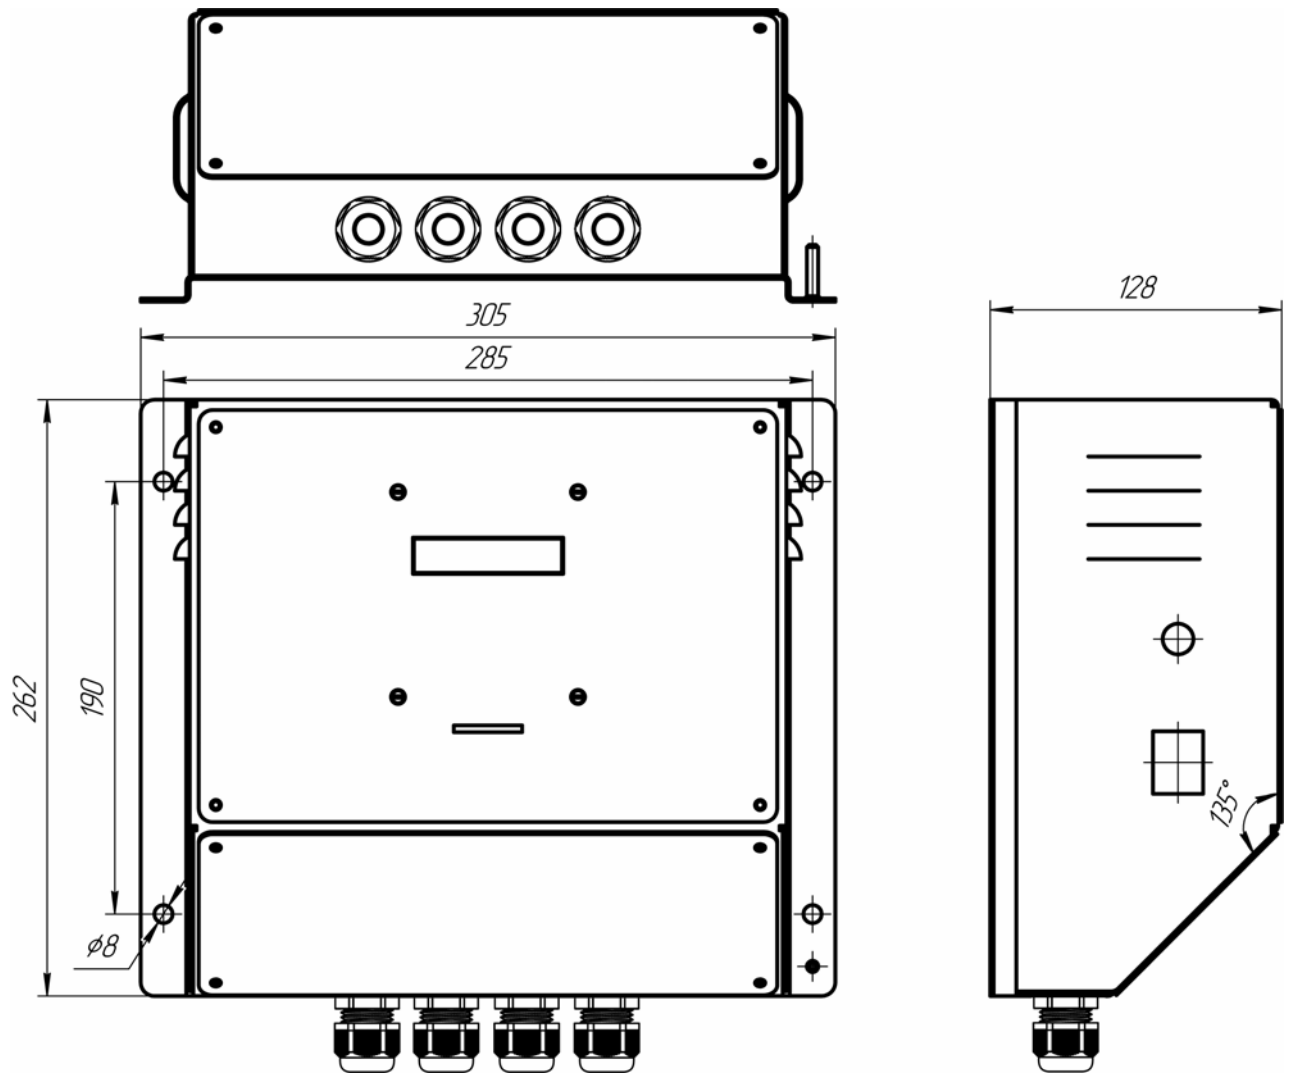

Fig. 1. Outline drawing of the converter
- a) Select the place for installation of the converter (at the vertical bulkhead or mounting panel) and prepare mounting holes as per outline drawing (see Figure 1).